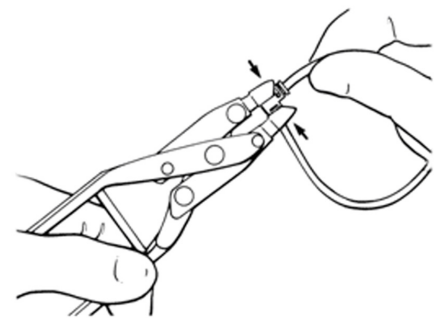

Figure 4-35. Using a right angle connector
- Use tool twice, once on each end. (Figure 4-35)